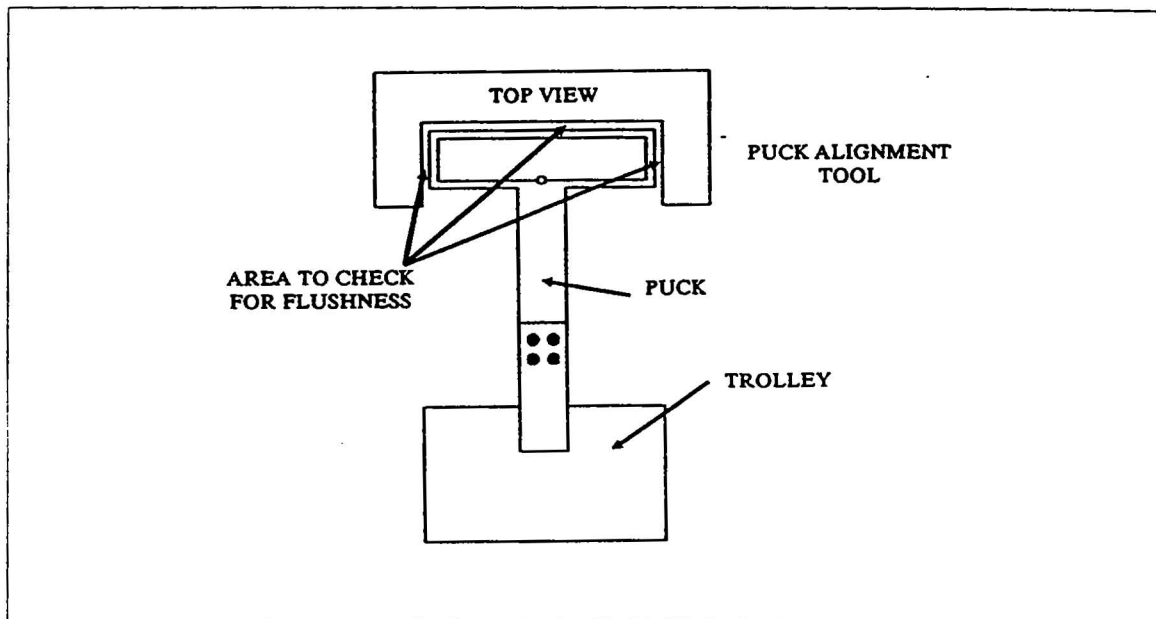

Fig. 5-13 Proper Puck Arm And Puck Alignment
2. If the front face of the puck is fitted smoothly flush with the top of the puck alignment tool, no adjustment is needed (See Fig. 5-13).